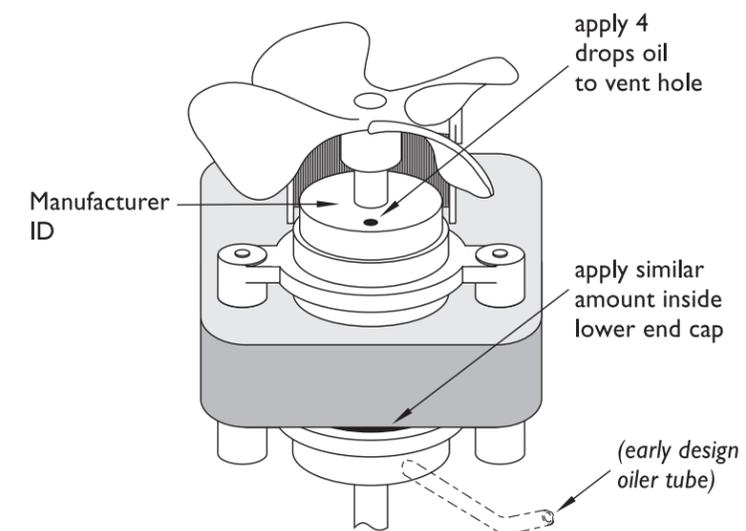

Figure 5 - PUMP MOTOR
2. Oil the pump motor every 6 months with Anderol #465 (GAYMAR P/N 77137-000) or equivalent to extend the life of the T/Pump motor. Anderol #465 is a synthetic oil. Do not use a petroleum-based oil since it will leave a residue as it breaks down, causing the motor to seize. Add four (4) drops of oil to the vent hole in the bearing housing of the motor located below the fan. Using a micro oiler, apply a similar amount to the lower bearing at the location indicated in figure 5.
**NOTE:** Early versions of the pump motor have an oiler tube which does not effectively distribute oil to the lower bearing. Do not use the oiler tube to apply oil to the lower bearing. Use a micro oiler to apply oil directly to the locations shown in figure 5.